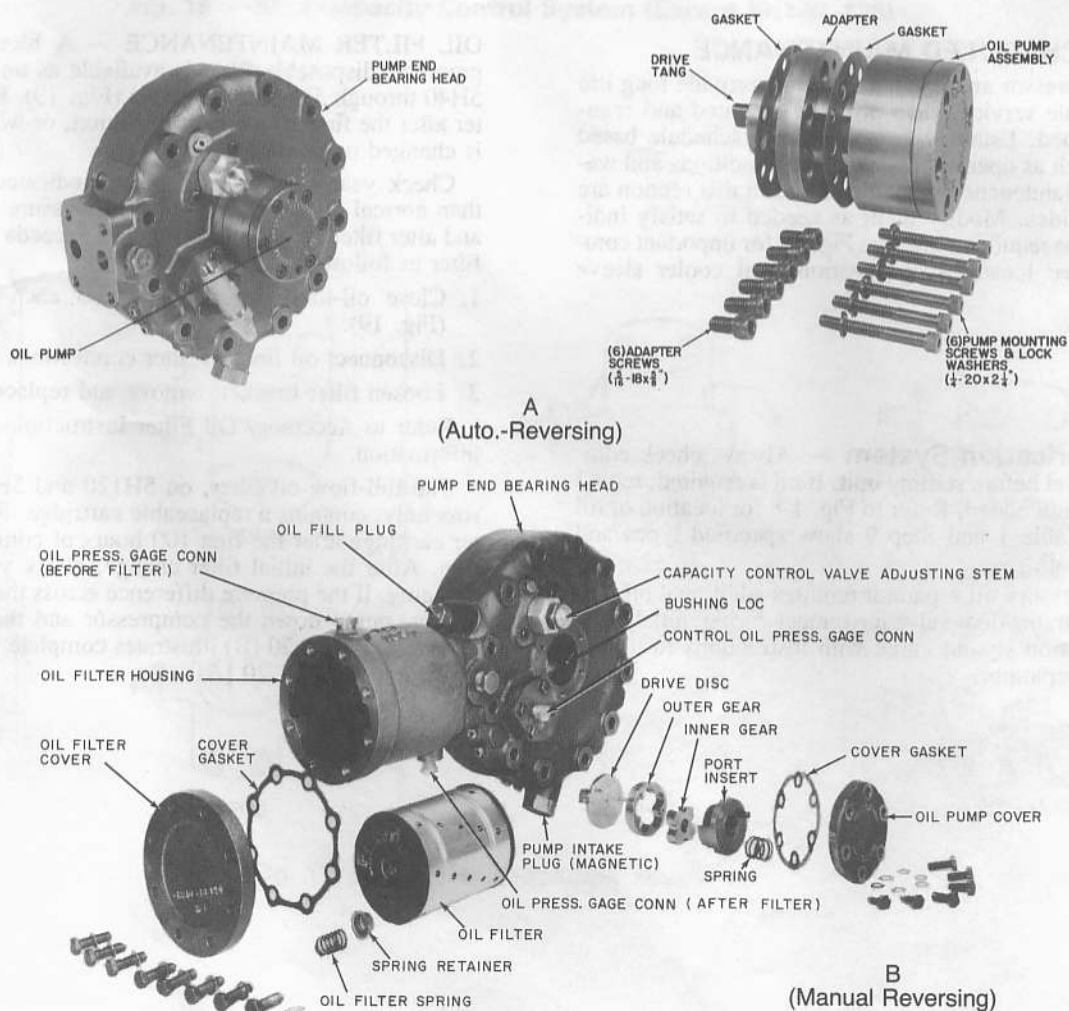

Fig. 20 — Oil Pump and Filter Assembly (5H120, 126)
The full-flow oil filter, on 5H120 and 5H126 compressors only, contains a replaceable cartridge. Replace the filter cartridge after the first 100 hours of compressor operation. After the initial filter change, check yearly for filter clogging. If the pressure difference across the filter exceeds 5 psig, pump down the compressor and then remove the cartridge. Figure 20 (B) illustrates complete filter assembly (not shown in Fig. 20 [A]).
5H120,126 compressors, with automatically reversing oil pump. See Fig. 20(A).
5H120,126 compressors, with manually reversing oil pump. See Fig. 20(B) and 26.
Oil Pump Inspection — See Fig. 20(A) for 5H120 and 126 for automatic reversing oil pumps.